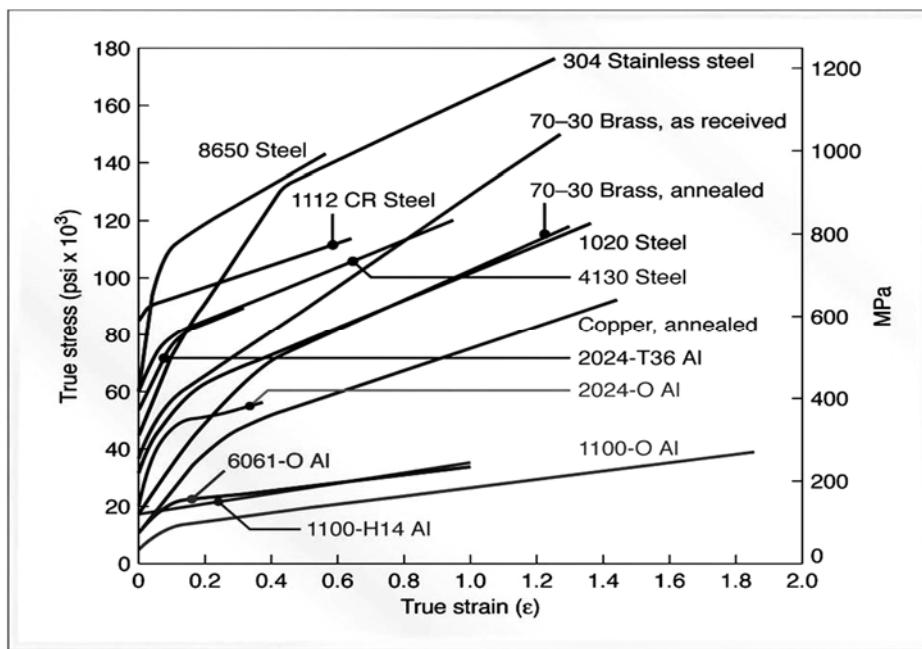

Figure Q6[b]
- [b] An annealed copper strip, 200 mm wide and 20 mm thick is rolled to a thickness of 10 mm in one press. The roll radius is 300 mm and the rolls rotate at 100 rpm. Calculate the roll force required in this operation. Value of true stresses can be obtained from Figure Q6[b].